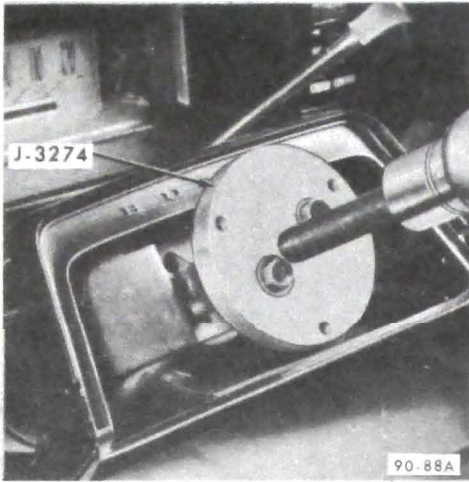

Figure 90-99 Removing Steering Wheel
3. Attach Wheel Puller J-3274 to steering wheel and pull wheel up to nut. See Figure 90-99.